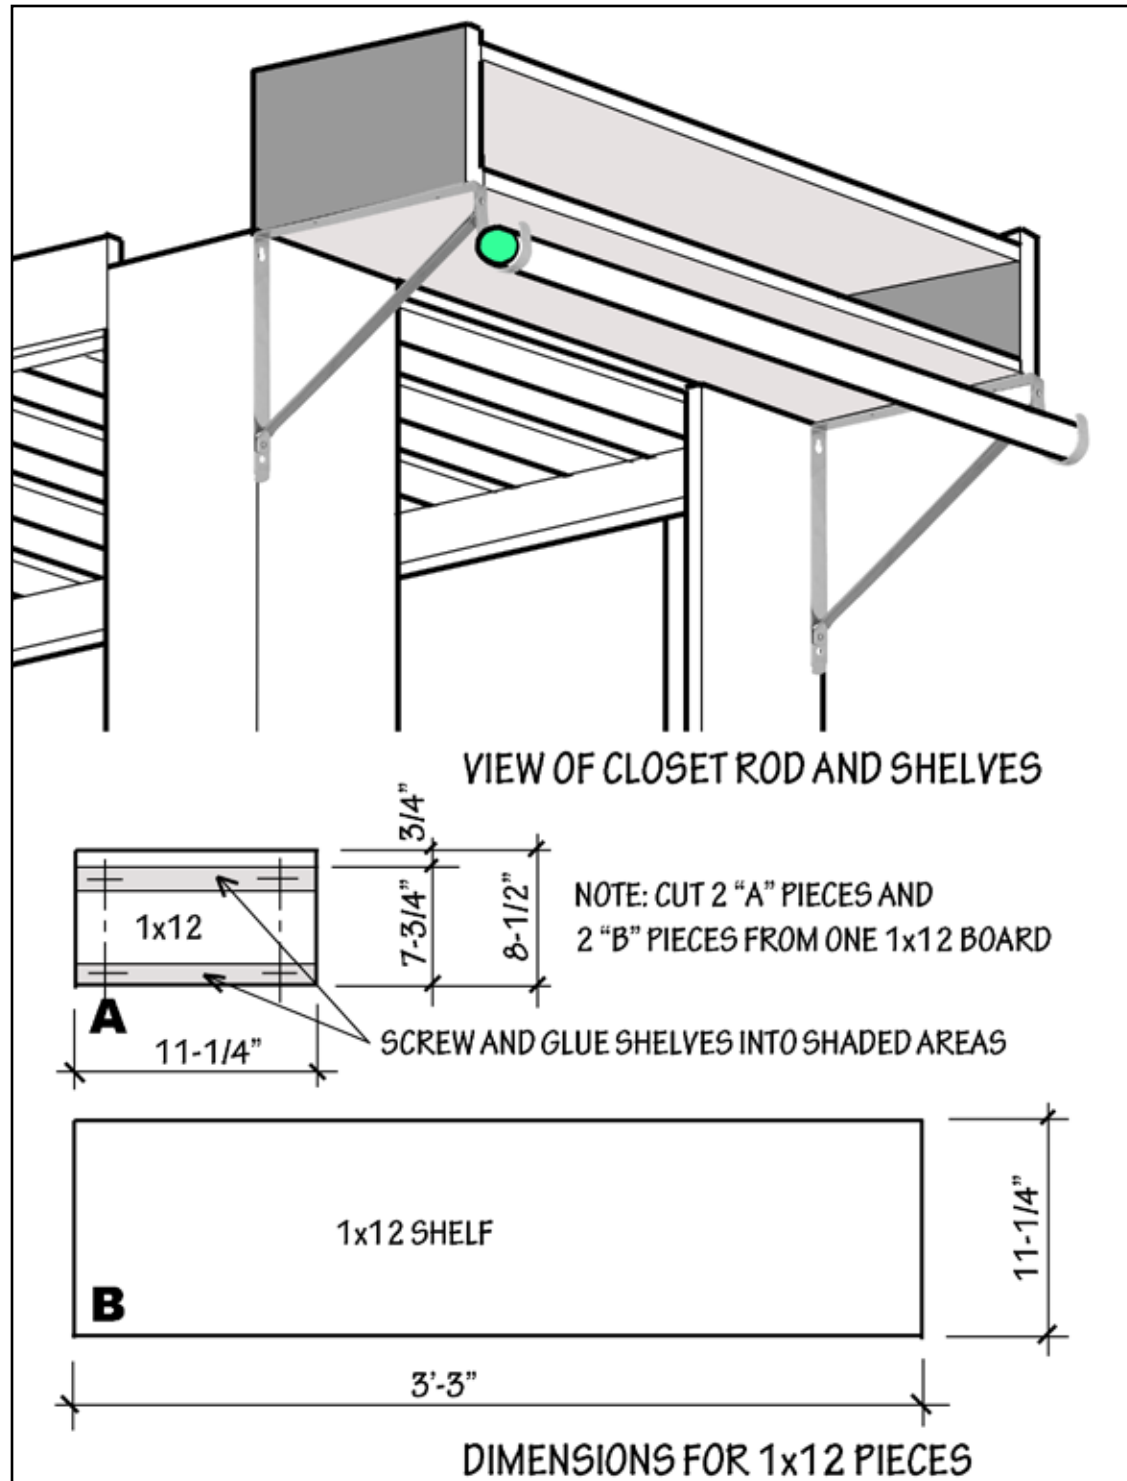

Figure 8. Optional closet rod brackets can support shelves and a closet rod.
10. There's only one more (optional) item to build and install: a closet rod and shelving unit that can be attached with standard closet rod brackets to the corner posts, as shown in Figure 8. Fasten the brackets to the top of the corner posts with a packet of the "premium" bracket screws (don't use the smaller screws that are sold for this purpose).